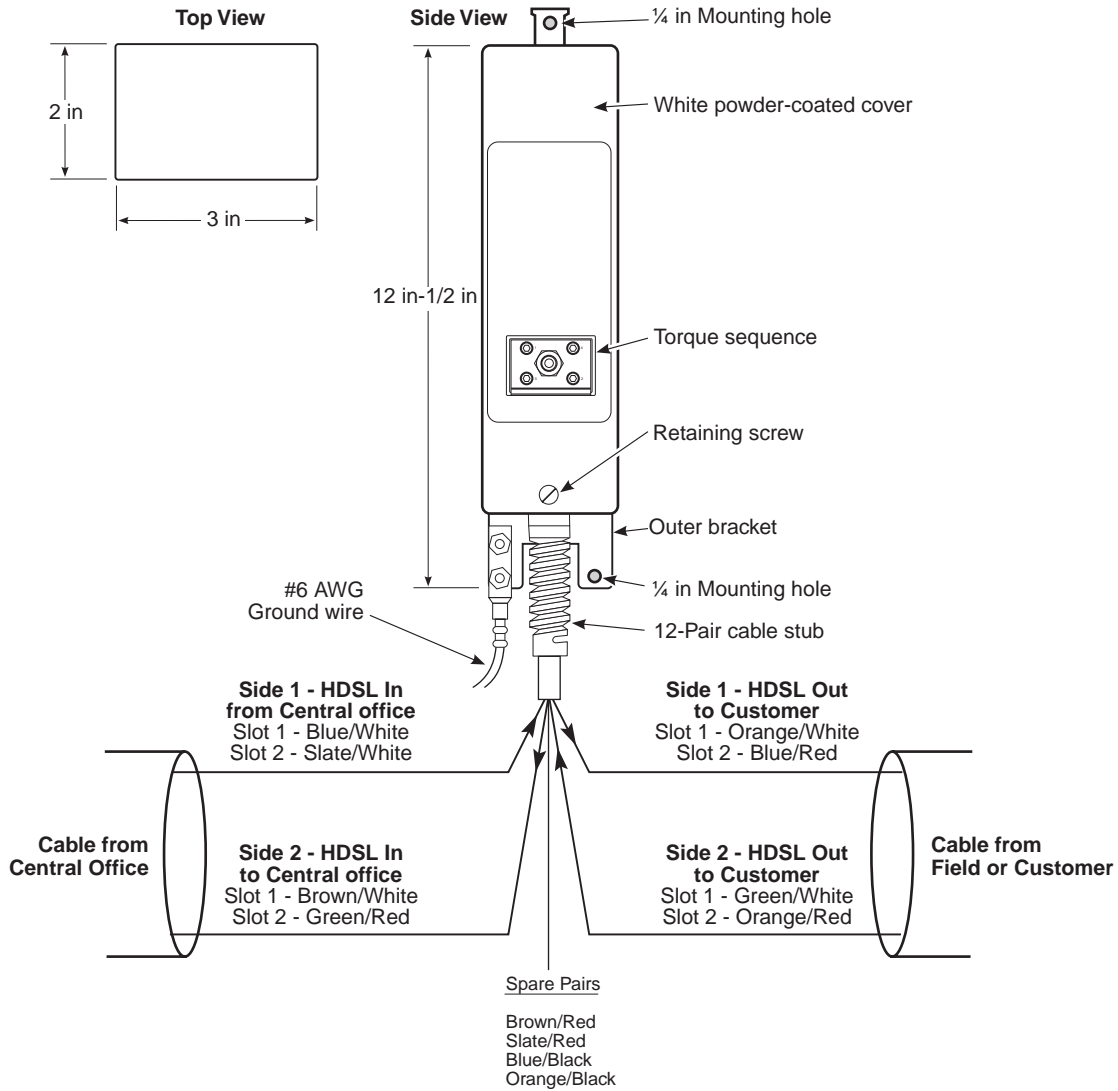

Figure 2. HRE-602 External Mechanics
Figure 2 shows the external mechanics of the HRE-602 including the cable stub wiring assignments and enclosure dimensions.
- 1 Remove the small retaining screw from the lower front side of the case shown in Figure 2 on page 4.